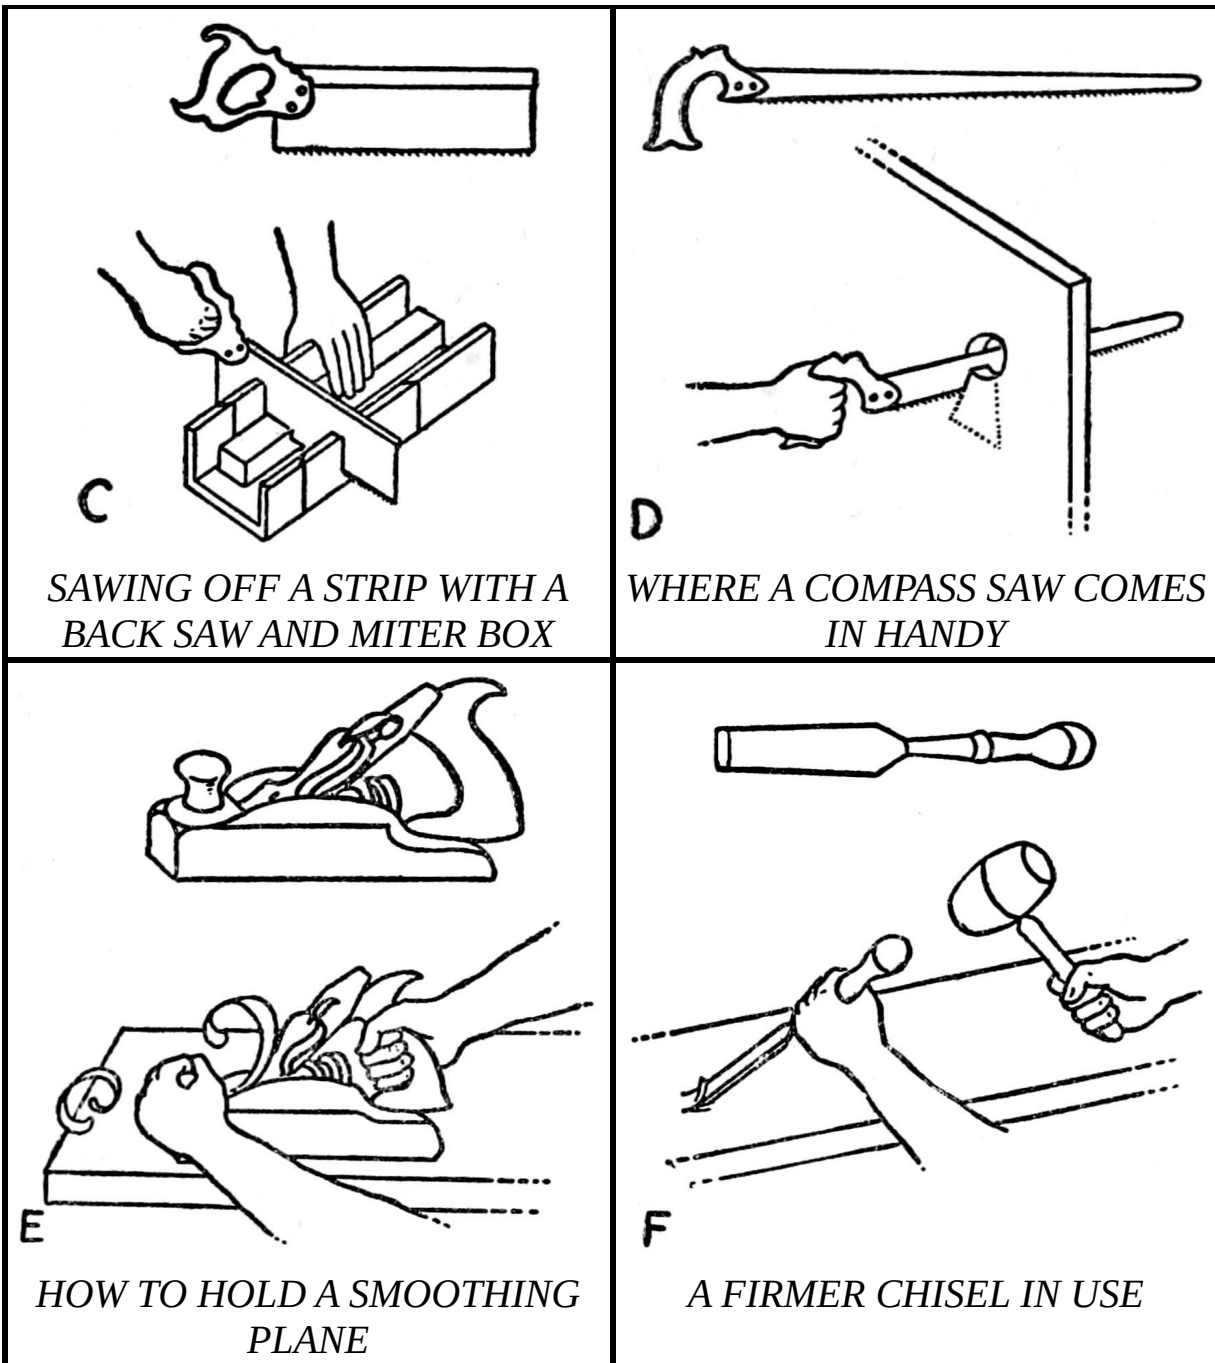

FIG. 1. SOME USEFUL WOOD WORKING TOOLS
All the tools you will need at first are shown in Figs. 1 and 2 and these are (1) a cast-steel, adze-eye, bell-faced *hammer*^[1] weighing about 9 ounces, which is a regular carpenter's hammer. (2) A *mallet*, made of hickory, with a 2½ inch face and try to get one in which the handle goes clear through the head and is wedged in.